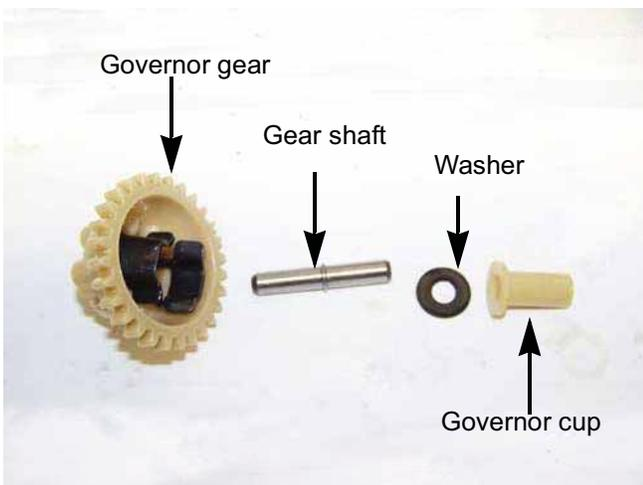

Figure 4.43
6. Slide the shaft out of the gear and cup. See Figure 4.43.